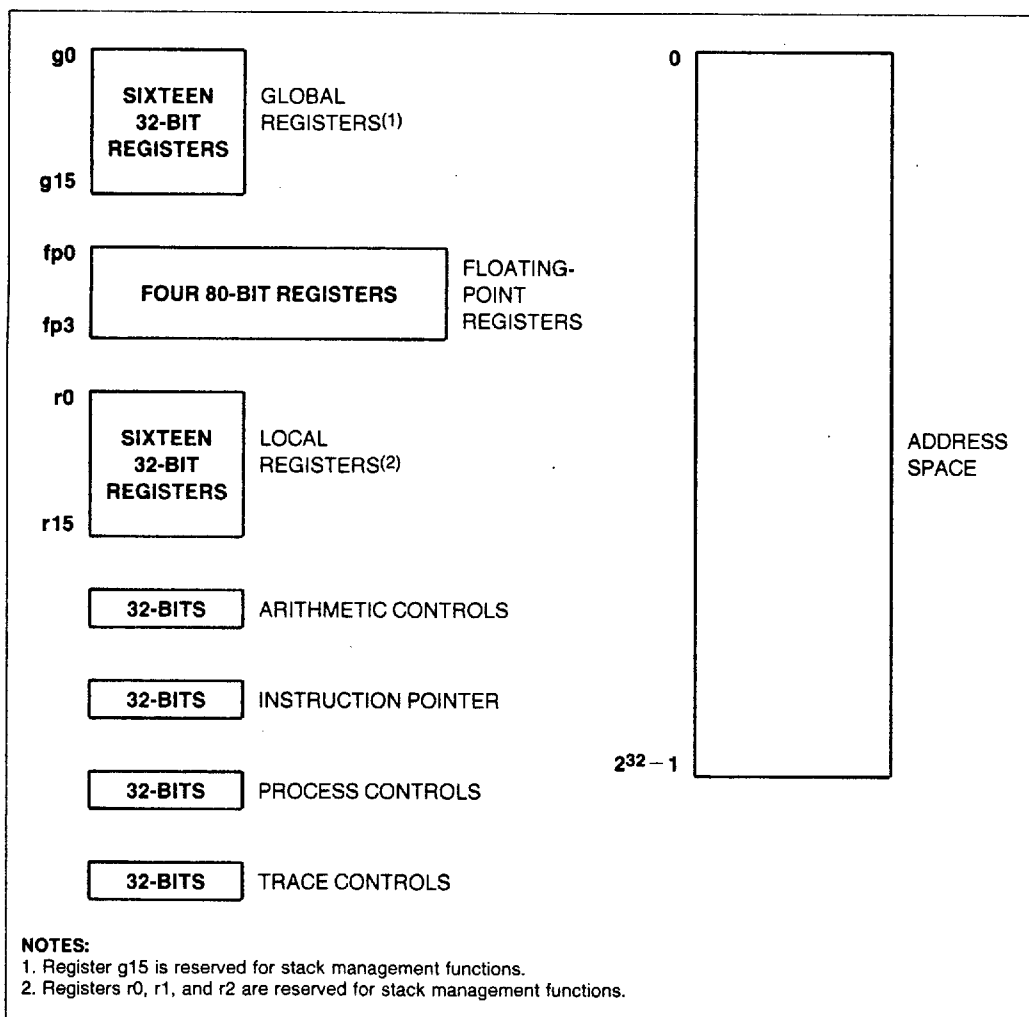

Figure 3. Register Set
- 1. Large Register Set.** Having a large number of registers reduces the number of times that a processor needs to access memory. Modern compilers can take advantage of this feature to optimize execution speed. For maximum flexibility, the 80960XA provides thirty-two 32-bit registers (sixteen local and sixteen global) and four 80-bit floating-point global registers. (See Figure 3.)